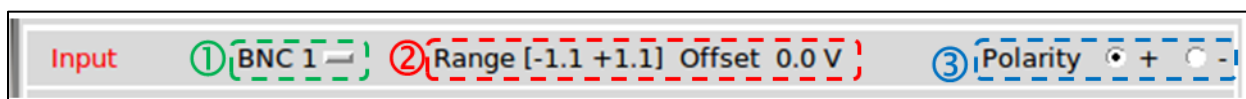
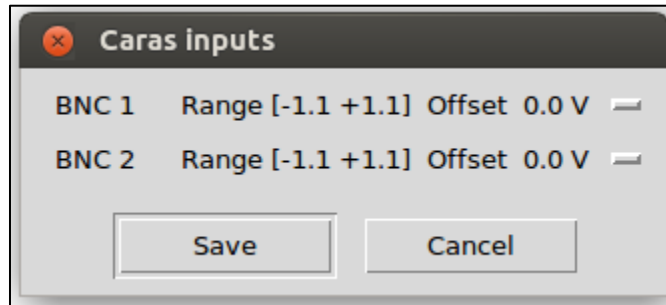

Figure 8: The raw signal parameters.
Figure 11: fullscale range interface for CARAS daughter board.
In this module, the user has to define the raw signal (cf. Figure 8). That means:
Each SMB channel can have a different dynamic input range from [0.0 +2.2] V to [-2.2 0.0] V. This dynamic range is configured by the user, by clicking on “Range” switch ② Figure 8. A new interface is launched (cf. Figure 11): the user can add a voltage source (called “Offset”) between -1.1 V and 1.1 V with 0.1 V-step.
The FASTER-SAMPLER process uses positive values. If the detector provides a negative signal, it is essential to convert it into a positive signal, with selection check button ③ (Figure 8).